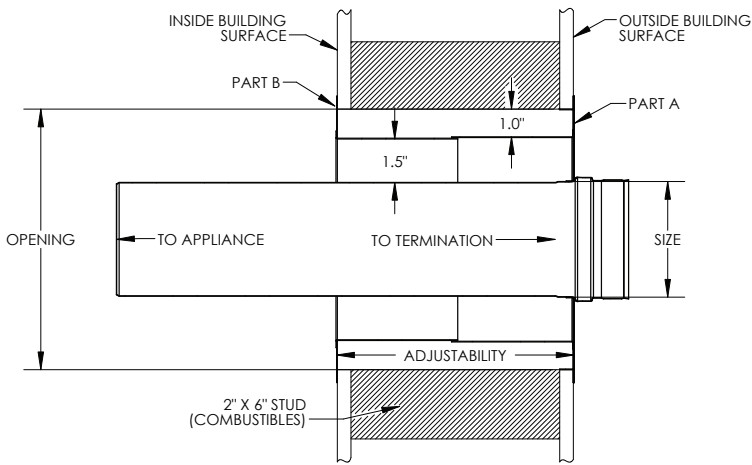

Figure 4 Wall Thimble Installation
2. Cut the opening for the Wall Thimble to allow the spacer tabs protruding from the outer plate to sit comfortably within the opening. (**See Figure 4**, Wall Thimble Installation diagram). The opening for the single wall thimble will be 5" larger than the vent diameter and for a W2 wall thimble the opening will be 6" larger than the vent diameter. (**See Table 3**)